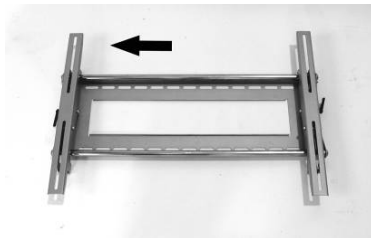

Fig. 19
2. The lateral adjustment range of the display is limited due to widely spaced mounting rails. (Fig. 19)